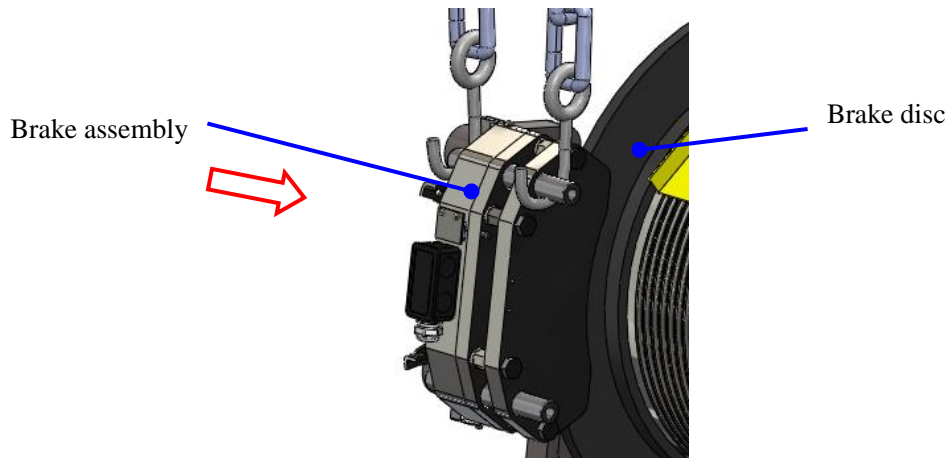

Figure 38: Brake installation
1. Open the brake by connecting to the power. Install the brake assembly on the brake disc properly. See Figure 38.